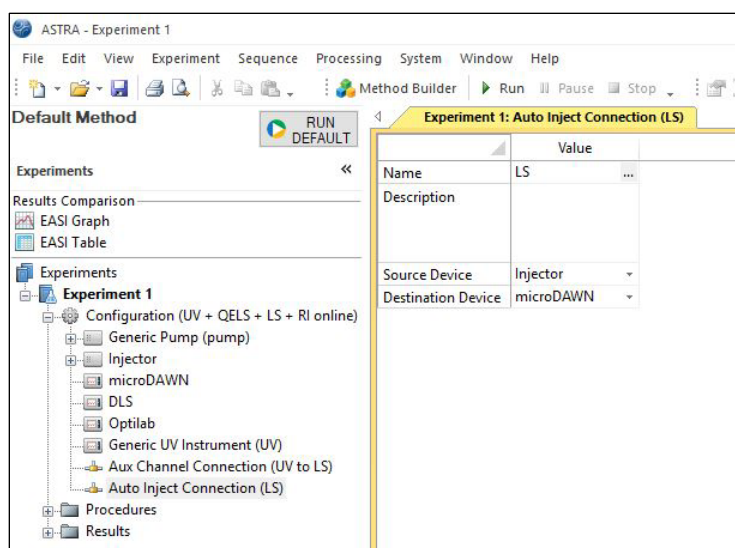

Figure 10: A screenshot of ASTRA software with the **Configuration** node expanded and **Auto-Inject Connection (LS)** selected.
3. Double-click on Auto Inject Connection \(LS\) to open that profile (see Figure 10). The parameters are: